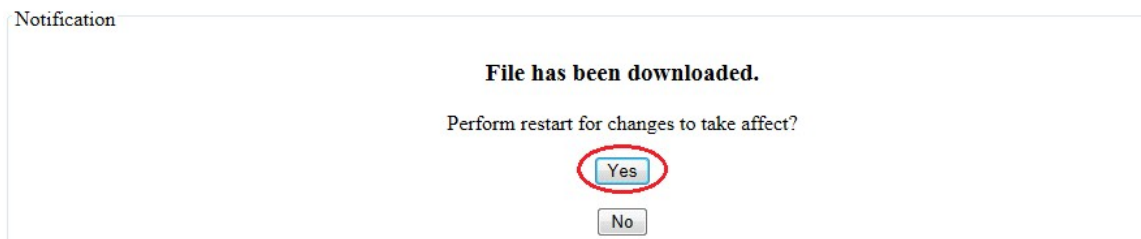

Figure 28 Rebooting after Downloading Firmware Upgrade
10. Click "Yes" to confirm reboot (Figure 28).